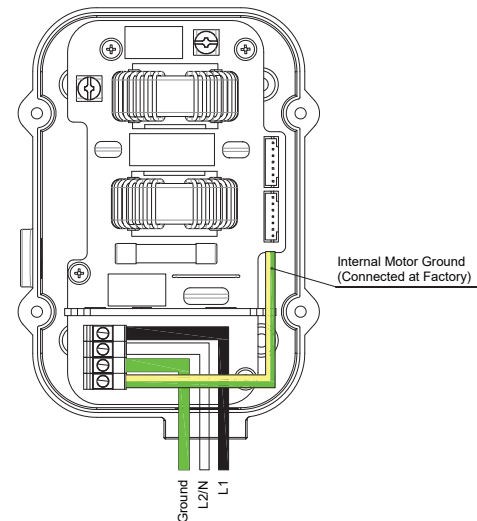

Figure 2
1. The pump motor must be securely grounded inside the motor control box. (See Figure 2)
4. Remove the four screws holding the top control enclosure onto the motor. Carefully lift the top panel and turn it over to expose the inside terminal box. (See Figure 2)
6. Connect L1, L2/N, and Ground to the terminal block as shown in Figure 2.